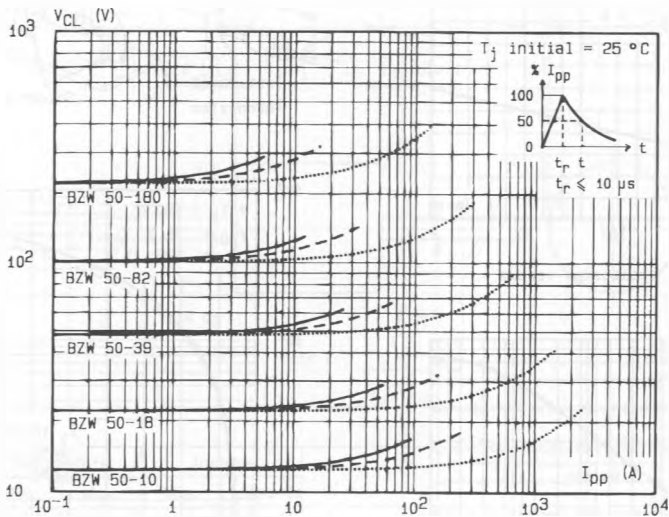

Fig.2 - Clamping voltage versus peak pulse current.
Note : The curves of the figure 2 are specified for a junction temperature of 25 °C before surge. The given results may be extrapolated for other junction temperatures by using the following formula :  $\Delta V (BR) = \alpha T (V (BR)) \times [T_j - 25] \times V (BR)$